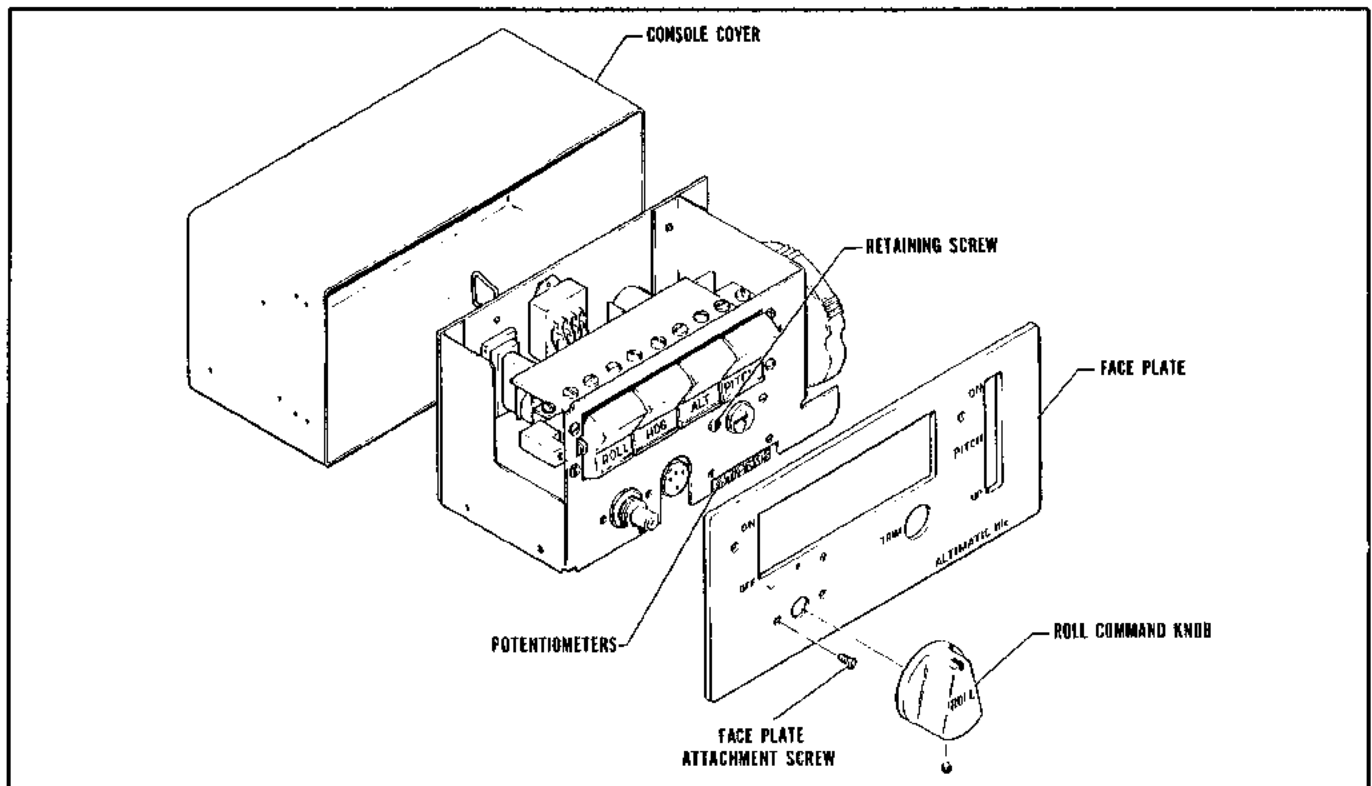

Figure 3-10. AltiMatic IIC Console
**3-5. INSTALLATION OF CONSOLE. (PA-23-250 Six Place) E & F Models. (Refer to Figure 3-10.)**